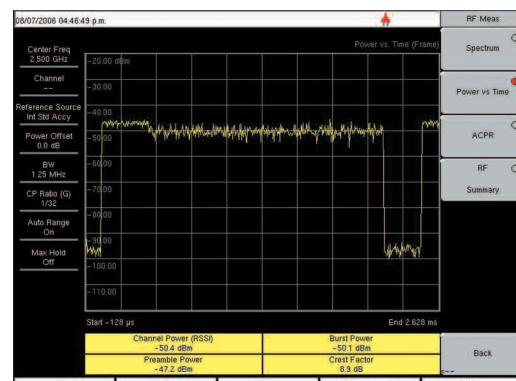

Figure 5. Power versus Time view.
2. Press the Power versus Time soft key to activate the measurement. The red dot on the soft key indicates it is selected (Figure 5).